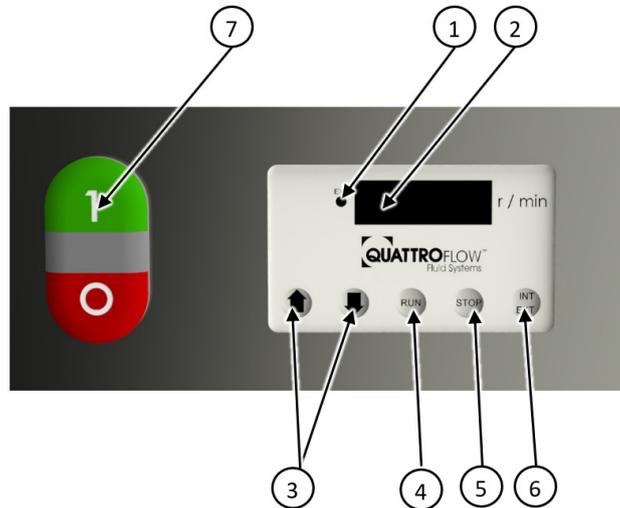

Figure 21 Control panel HT
- Manual operation (speed setting and start/stop) of the pump by the control panel (see chapter Figure 21 Control panel HT on page 27)
See Figure 21 Control panel HT on page 27.